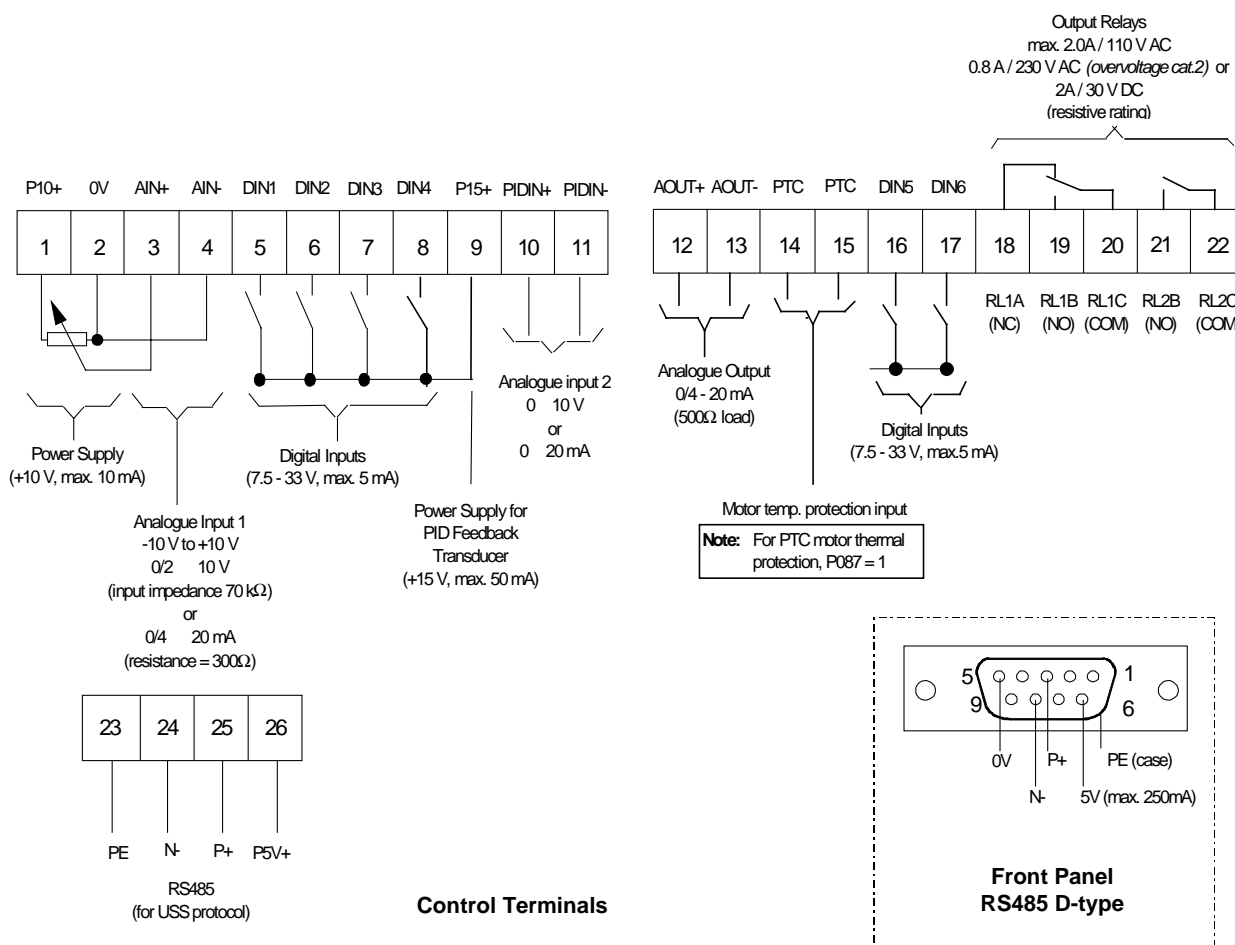

Figure 6: Control Connections - NORDAC compact
5. Connect the control leads as shown in Figures 6 and 8, section 2.2.4 and 2.2.6.
15. Connect the control leads as shown in *Figures 6 and 8*, section 2.2.4 and 2.2.6.
11. Connect the control leads as shown in Figures 6 and 8, section 2.2.4 and 2.2.6
- (1) Connect control terminal 9 to terminal 5 via a simple on/off switch. This sets up the motor for clockwise rotation (default).
- (2) Connect a 4.7 k Ω potentiometer to the control terminals as shown in Figures 6 and 8 or connect pin 2 (0V) to pin 4 and a 0 - 10 V signal between pin 2 (0V) and pin 3 (AIN+).